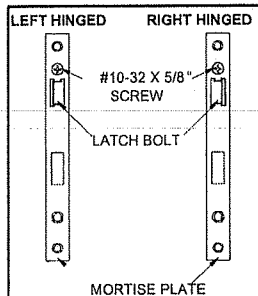

FIGURE 3
Place filler strips in top "u" channel if supplied. (Figure 3) Now place the head channel at top of door opening on exterior side. Using a 1/8" bit, drill one hole through the filler and frame, then fasten with screw provided. Continue on with the next three holes. (Figure 1)
Place filler strips in side "u" channel if supplied. (Figure 3) Now place left or right door panel on frame. Be sure the side hinged channel aligns properly with head channel miter. Drill one hole into the frame with 1/8" bit and secure with 1" screw, then check for alignment, continue on with next 7 screw holes. Now repeat on remaining door panel. On single clad doors the lock side filler strip should be cut in two places so there is no filler where the dead bolt and lock are.
B. If the latch bolt orientation of the mortise plate and latch assembly matches your door go to **Step C**. If the latch bolt orientation is incorrect for your door, remove the #10-32 X 5/8" flat head screw and mortise plate. Rotate the latch bolt 1/2 turn (180 degrees) and reattach mortise plate to latch assembly. See Fig. 3.